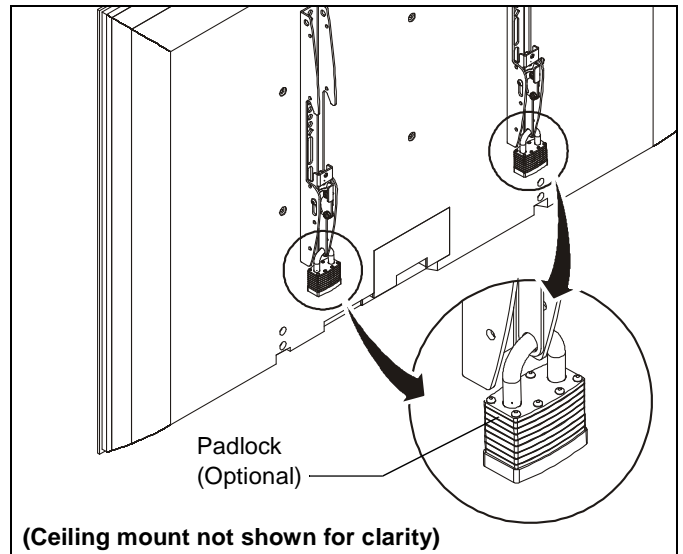

Figure 12
1. **OPTIONAL:** Add padlock (not included) to each interface bracket to lock displays to ceiling mount. (See Figure 12)